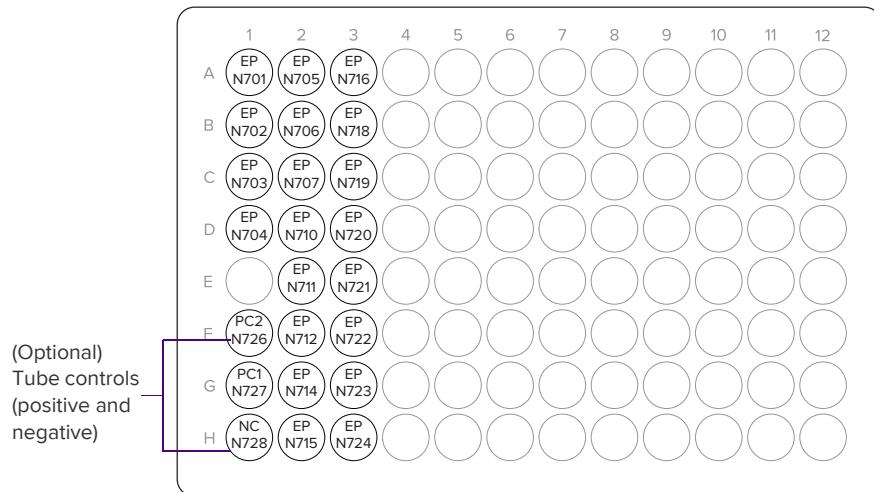

Figure 14. Index Primer pipette map and index assignment for the Library Prep plate
**NOTE** We recommend that you maintain the same plate layout for tracking purposes (see Figure 13 on page 41 and Figure 14 on page 53).
- To avoid contamination, use a multichannel pipette to carefully pipet 1.25  $\mu\text{L}$  of the appropriate Index Primer from Set A or Set B to each of the 20 sample libraries on the Library Prep plate (see Figure 14). We recommend using the following indices (only 20 of the 24 total indices with orange caps are required):
- (Optional) If performing a tube control (see Appendix A on page 67), select and document 2–3 of the unused indices from Set B (we recommend N726–N728) and pipet 1.25  $\mu\text{L}$  of the appropriate Index Primer to each of the recommended wells (see Figure 14 on page 53). Make sure to track the positions and indices carefully.